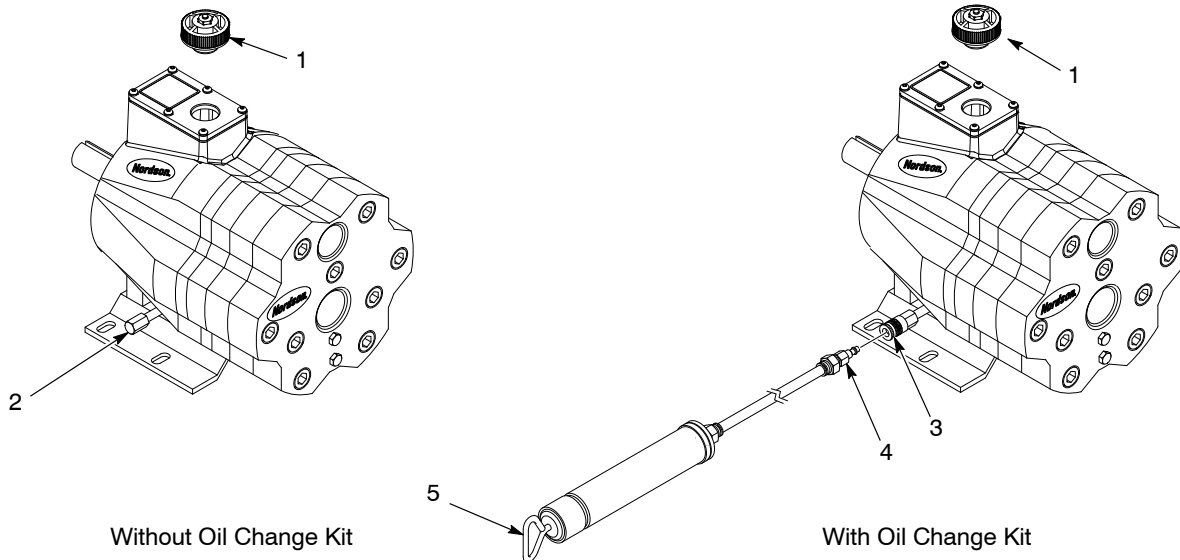

Figure 3 Draining the Oil
a. See Figure 3. Remove the oil fill cap (1) from the pump.	a. See Figure 3. Remove the oil fill cap (1) from the pump.
b. Remove the drain plug (2).	b. Connect the suction gun fitting (4) to the drain fitting (3).
c. Install the drain plug after the oil has drained.	c. Pull the handle (5) to draw the oil out of the pump.